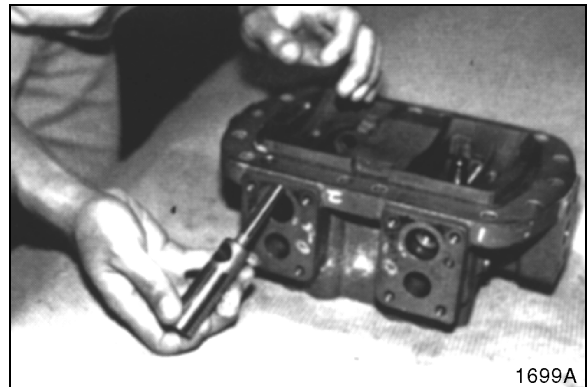

Figure 105
1. Install piston in main control body. See Figure 105.